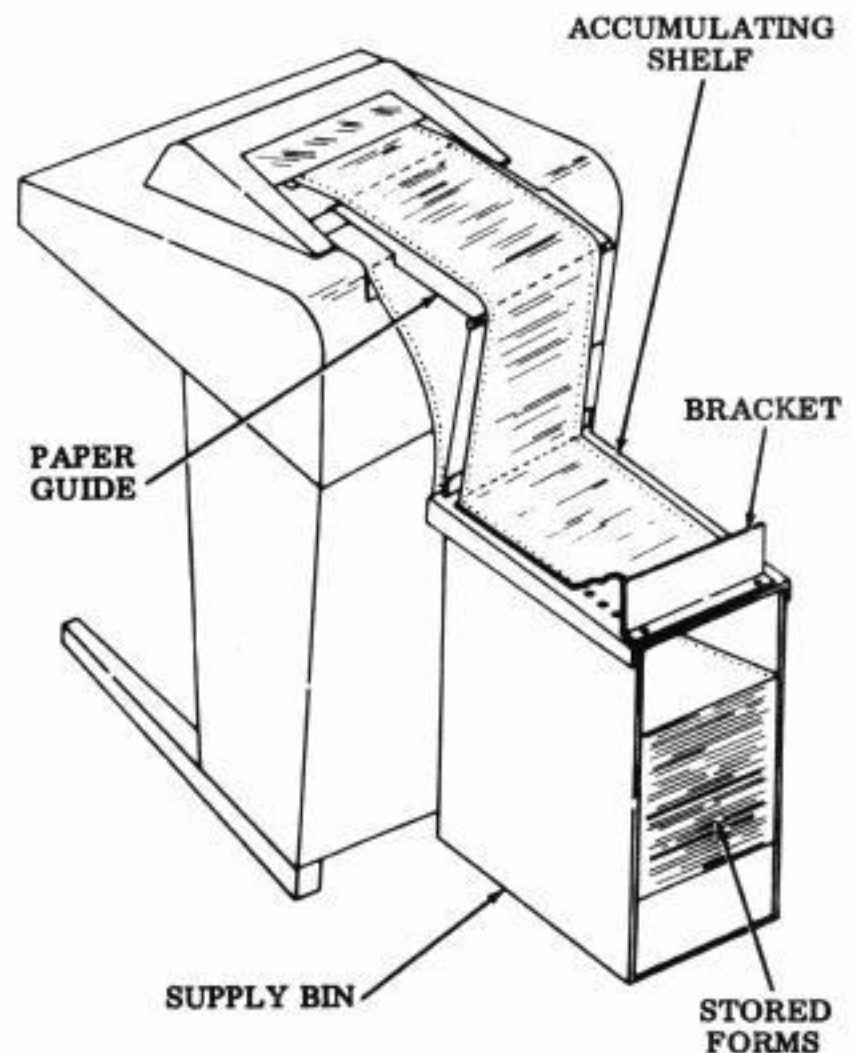

Figure 8 - Accumulating Shelf and Supply Bin
- 2.26 When installed (see Figure 8), the modification kit provides a cabinet with a means of storing forms prior to and during operation of the printer, and also accumulating these forms after they have been typed.